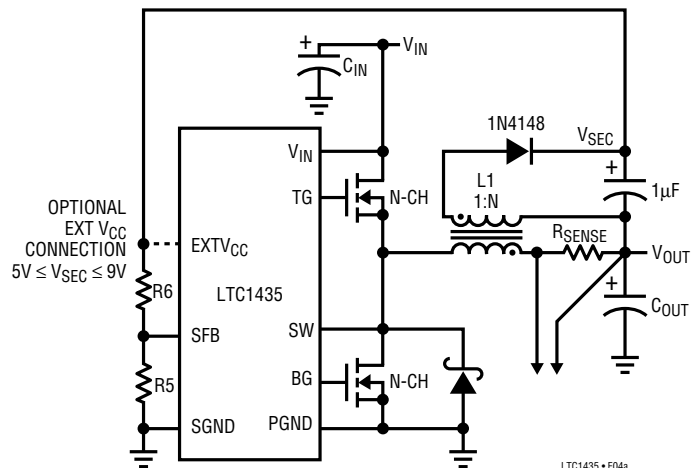

Figure 4a. Secondary Output Loop and EXTV_{CC} Connection
3. EXTV_{CC} connected to an output-derived boost network. For 3.3V and other low voltage regulators, efficiency gains can still be realized by connecting EXTV_{CC} to an output-derived voltage which has been boosted to greater than 4.8V. This can be done with either the inductive boost winding as shown in Figure 4a or the capacitive charge pump shown in Figure 4b. The charge pump has the advantage of simple magnetics.
The secondary output voltage is set by the turns ratio of the transformer in conjunction with a pair of external resistors returned to the SFB pin as shown in Figure 4a. The secondary regulated voltage, V_{SEC} , in Figure 4a is given by: